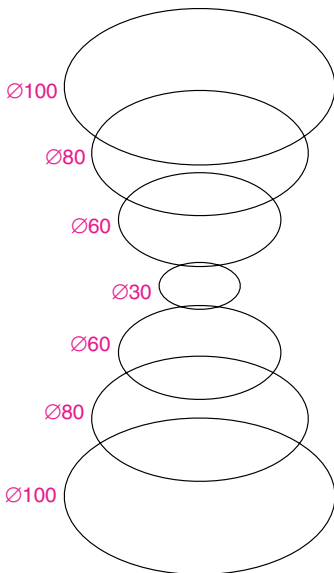

Fig. 13.35 Example **Loft** – the cross sections
1. Construct the seven circles shown in Fig. 13.35 at vertical distances of **30** units apart.